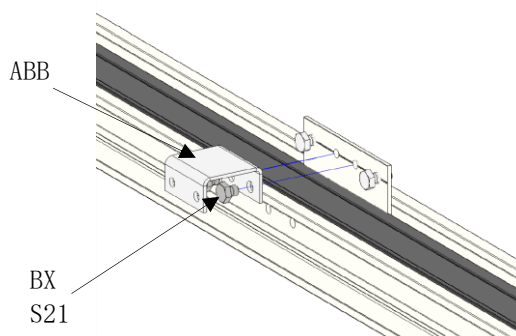

fig. 140
- screw the connection plate (item ABB) to the connection of the side window (inside) (item DF) using 2x hexagon head screws (item BX S21). (fig. 140)